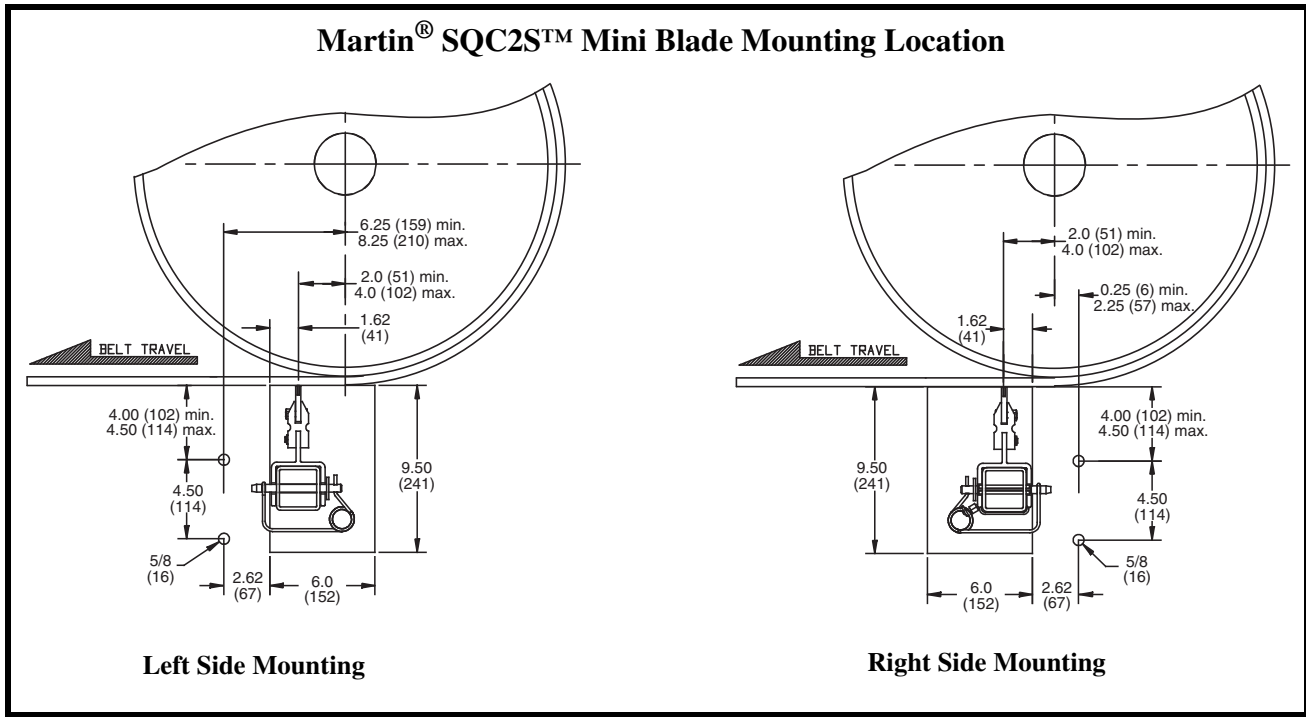

Figure 1. Mounting Locations
1. Mark the chute cutout and mount hole locations as shown in Figure 1. Repeat on both sides of chute, ensuring cutouts are accurately aligned with each other.
1. Slide blade cartridge onto mainframe with blade positioned as shown in Figure 1. Push far side end of blade against stationary pin until it locks.